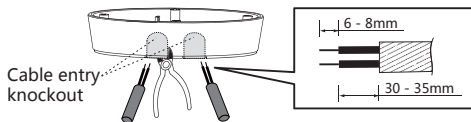

FIG.14
- To feed AC power cables through the side of junction box, please use the cutting pliers to break the cable entry knockouts on the side of junction box, then insert cables into junction box and feed through it. Strip off 6 - 8mm of cable sheathing for wiring (See FIG.14).